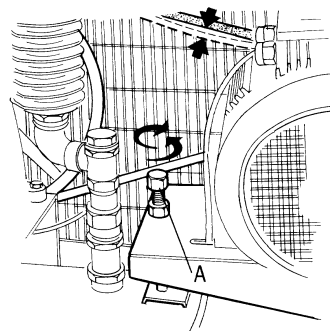

fig. 12
The tension of the V-belts is adjusted by the supplier. When replacing them it is necessary to make sure that the driving plates are correctly positioned and adjust the tension by manipulating the threaded pin (A), which rises the motor basis and enables to adjust the belt tension (fig. 12).